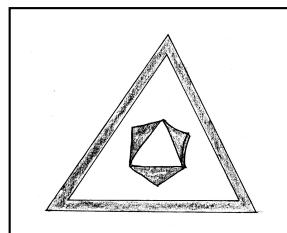

figure 11
- 6) Place the object to be set on top of the background piece and bend the tabs over the inside of the object and press down with a piece of wood or plastic (figure 11).